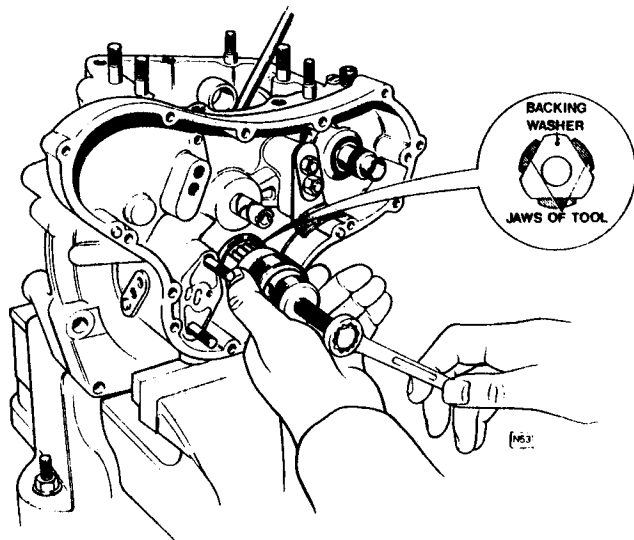

Fig. C24 Extracting crankshaft pinion using tool ET 2003
- 12 Using Service Tool ET.2003 as shown in *Fig. C24*, extract the crankshaft pinion. It should be noted that the jaws of the service tool locate to the spaces provided in the pinion backing washer.